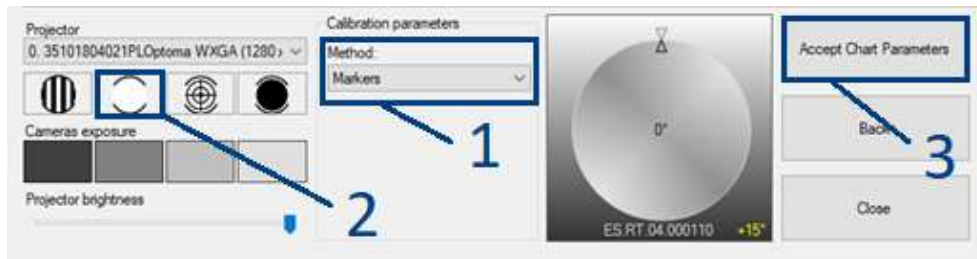

Fig. 5-69. Rotary table calibration window
1. In the rotary table calibration window, select "Markers" from the drop-down list as the calibration method (1), as shown in Figure 5-69.